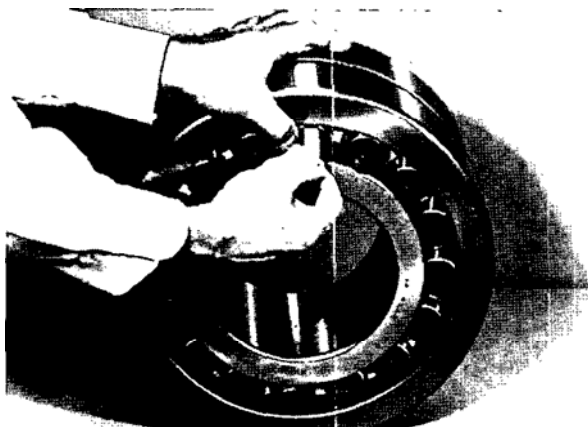

Figure 1 Internal Clearance
1. **Measure the internal clearance of the bearing before mounting.** Place the bearing in a upright position as shown in Figure 1. Seat the inner ring and roller elements by pressing down firmly on the inner ring bore while rotating the inner ring a few times. Position the roller
assemblies so that a roller is at the top-most position on both sides. For bore sizes above 61/2" only, press these top rollers inward ensuring contact with center guide flange. Using a feeler gauge measure the clearance for both sides by inserting as far as possible and sliding over top of roller (Figure 1). Write down the measured clearance and compare with specifications (Table A). **NOTE: Do not rotate bearing when moving feeler between roller and outer ring.**